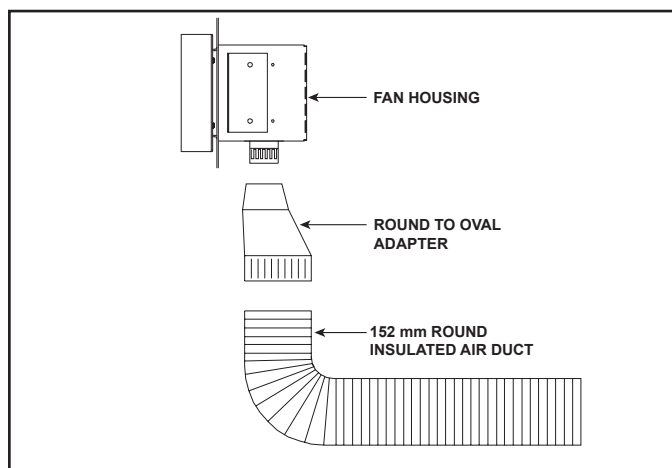

Figure 5.9 Duct Attachment
8. **ROUND AIR DUCT:** Attach the 152 mm round air duct (supplied in the kit) to the heater collar and run the duct to the fan housing. Attach the round-to-oval adapter to the fan housing and the air duct to the adapter. See Figure 5.9.